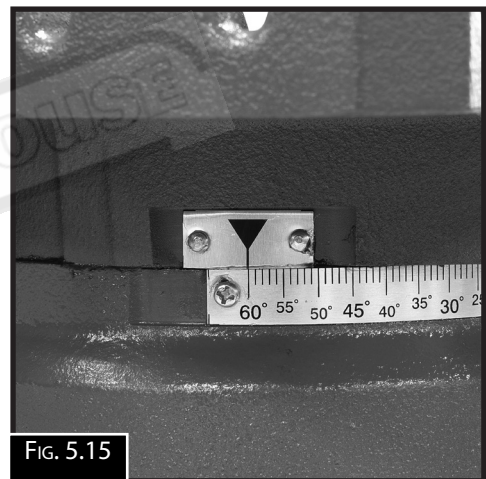

FIG. 5.15
4. Raise the saw bow, then move the head and set the scale to 60°. (Fig. 5.15) then lower the saw bow and lock in place.